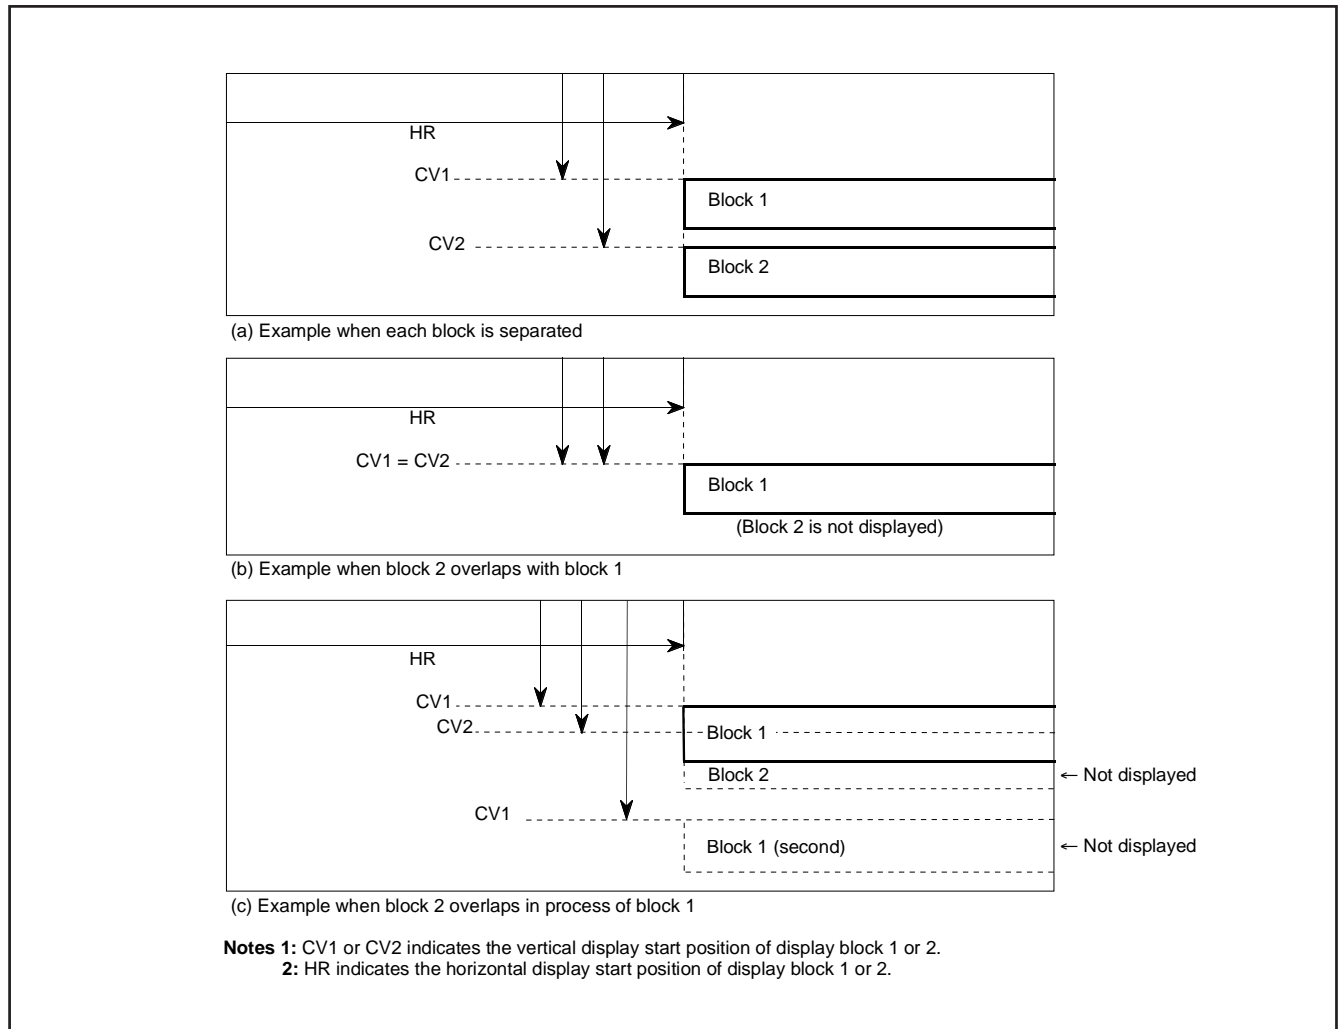

Fig. 8.11.4 Display Position
- Block 2 is displayed after the display of block 1 is completed (Figure 8.11.4 (a)).
- When the display position of block 1 is overlapped with that of block 2 (Figure 8.11.4 (b)), block 1 is displayed in front.
- When another block display position appears while one block is displayed (Figure 8.11.4 (c)), only block 1 is displayed. Similarly, when multiline display, block 1 is displayed after the display of block 2 is completed.